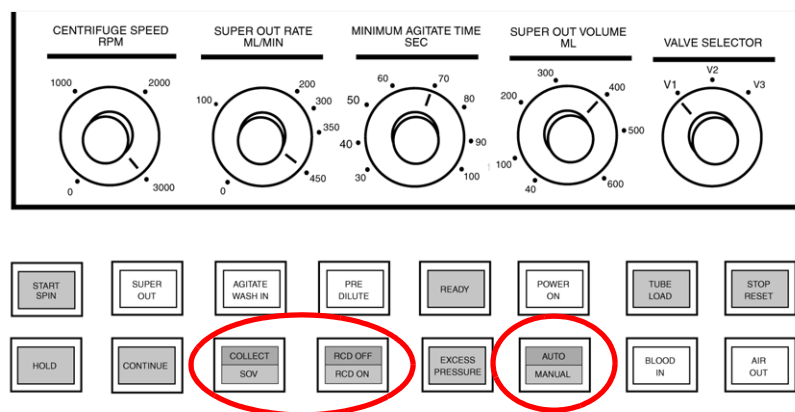

Figure 2-4: COBE 2991 operator controls (serial numbers 2000 and above)
- COBE 2991s with serial numbers of 2000 and above are configured with interlocked COLLECT/SOV and RCD OFF/ON, and AUTO/MANUAL buttons as shown in Figure 2-4.